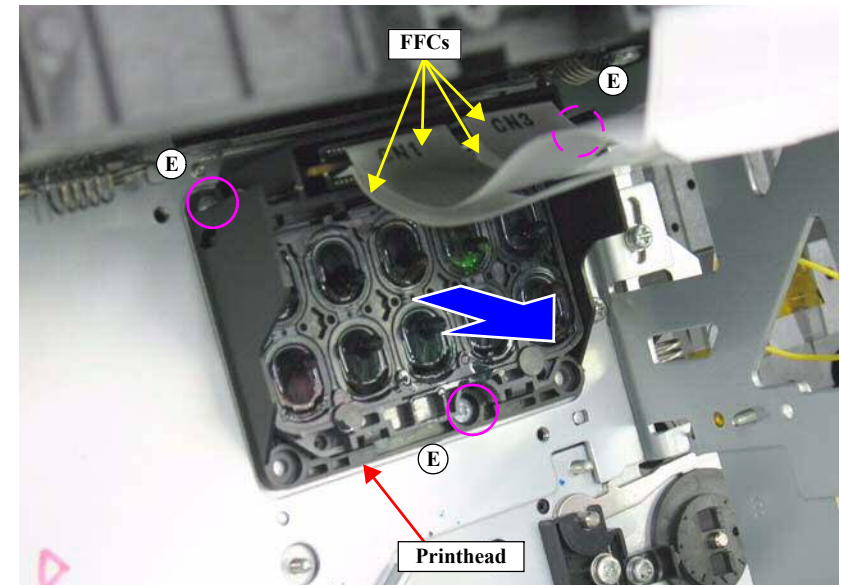

Figure 4-122. Removing the Printhead
16. Disconnect four FFCs from the Printhead. *See Figure 4-122.*
17. Remove the three screws that secure the Printhead, and remove the Printhead. *See Figure 4-122.*